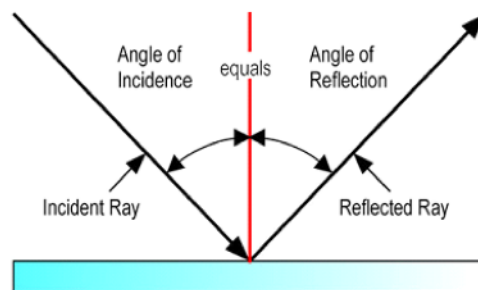

Figure 1: Reflection law.
- The incident angle is equal to the reflected angle; refer to Figure 1.